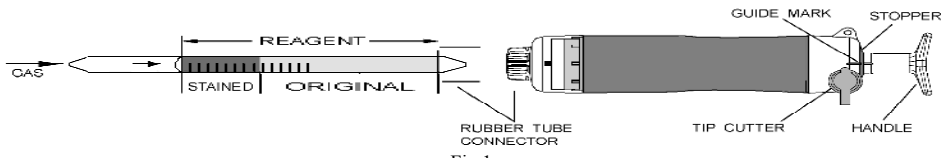

Fig.1
- ② Insert the detector tube into aspirating pump securely as shown in Fig.1. (Arrow mark shall point to the pump.)
- ③ Align the guide marks on the shaft and stopper of the aspirating pump.
- ④ Pull the pump handle at full stroke locked position and wait for 2 minutes or until the completion of sampling is confirmed with the flow indicator of the pump (See descriptions about the flow indicator in the instruction manual of the pump).
- ⑤ On completion of sampling, read the scale at the maximum point of the stained layer.
- ⑥ In case of 4 pump strokes, after the above ① to ④, turn the pump handle right or left by 1/4 (90°), push it toward to the pump without removing the detector tube from the pump inlet and then repeat the step ③ to ④ three times more.
- ⑦ On completion of the sampling, read the scale at the maximum point of the stained layer and multiply the